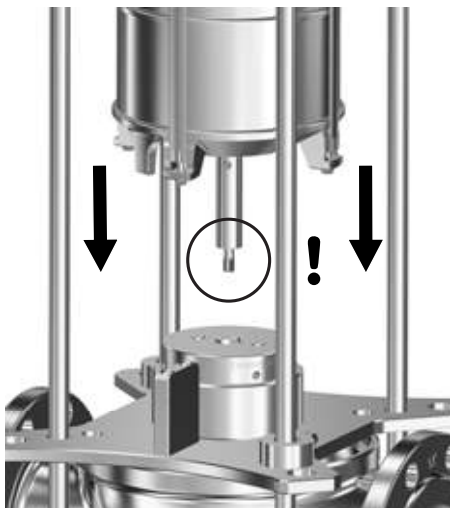

Fig. 22 Positioning the chamber stack in service tool H2
5. Lift the chamber stack onto service tool H2. See fig. 22. Make sure the pump-shaft end engages with the service tool.